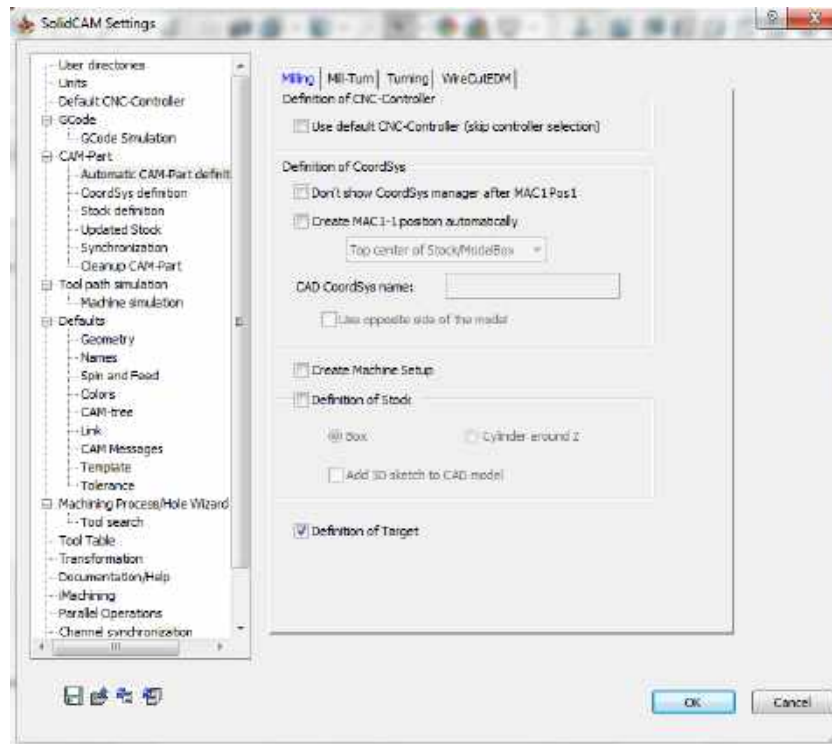

Fig. 2. Setting up the Automatic Definition of a CAM-Part
2. Parameters listed in the settings for automatic CAM-Part definition (Fig. 2):